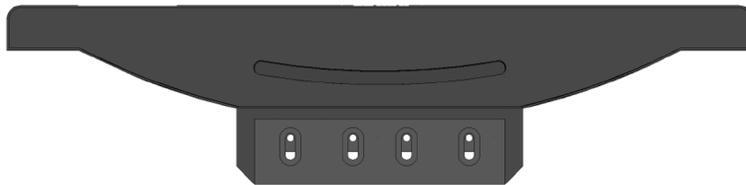

Figure 3.1 Pin Mount Bar with 4 Holes for Screws
- Slide the overlay as far as possible towards the foot of the CT table, making sure that it is the head bracket that prevents further movement towards the foot of the CT table. The horizontal pins on the head bracket should be fully engaged in the phantom slot. Push up on the pin mount bar so that the top of the pins are in contact with the top of the phantom holder slot. Tighten the four screws which attach the pin mount bar in this position. See Figure 3.1 that shows the four holes where these screws are found. Correct position can be verified by lifting up on the head end of the overlay and verifying that vertical motion relative to CT table is less than 0.25 mm (0.010 in).